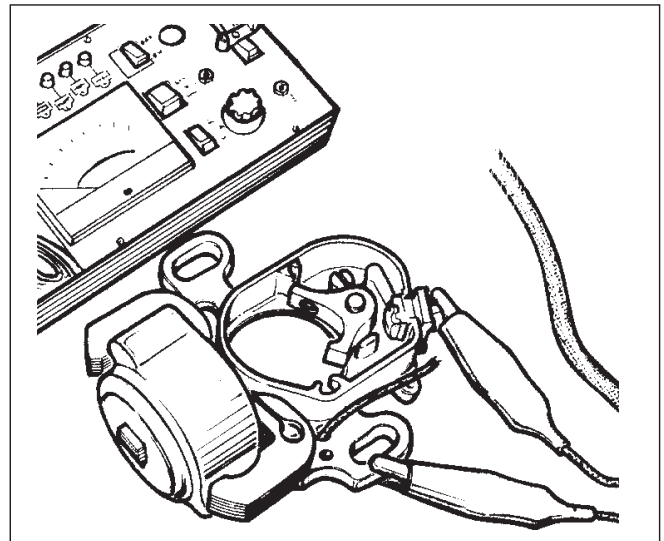

Fig. 12
- Check coil efficiency on a tester with coil mounted on stator (Fig 12).
- Check coil outer insulation for leaks with tester (Fig 12). If a tester is not available, the engine may be tested with a new coil.